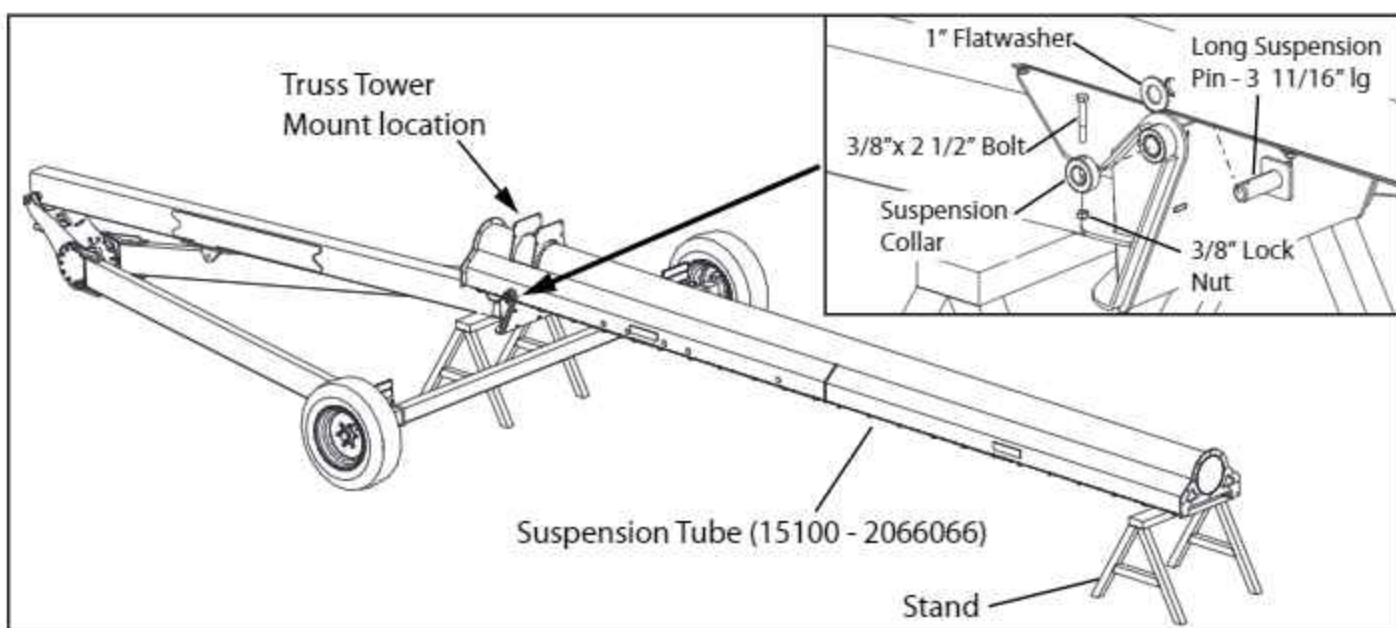

FIG. 3-12. First Tube Installation - 15100
1. Place a stand where shown in Fig. 3-12. Bring in the Suspension Tube Assembly and attach it to the Ladder Tube using two Long Suspension Pins (3 11/16" long), two 1" flat washers, two Suspension Collars, two 3/8" x 2 1/2" bolts and lock nuts.